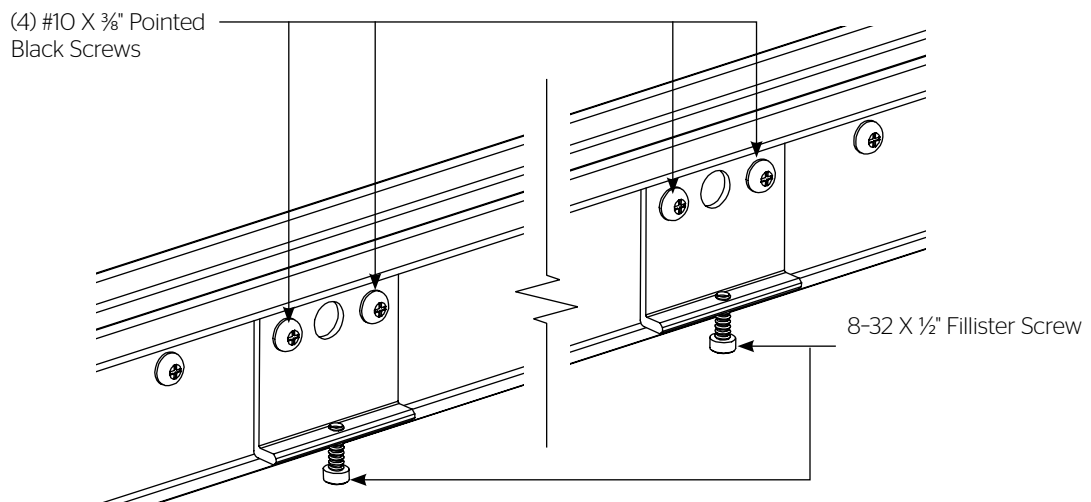

Figure 7 – Screens 104" and Over in Viewing Width
b. For screens 104" wide viewable and over, attach (2) frame brackets if your screen is 104" or over in viewing area width (Figure 7).